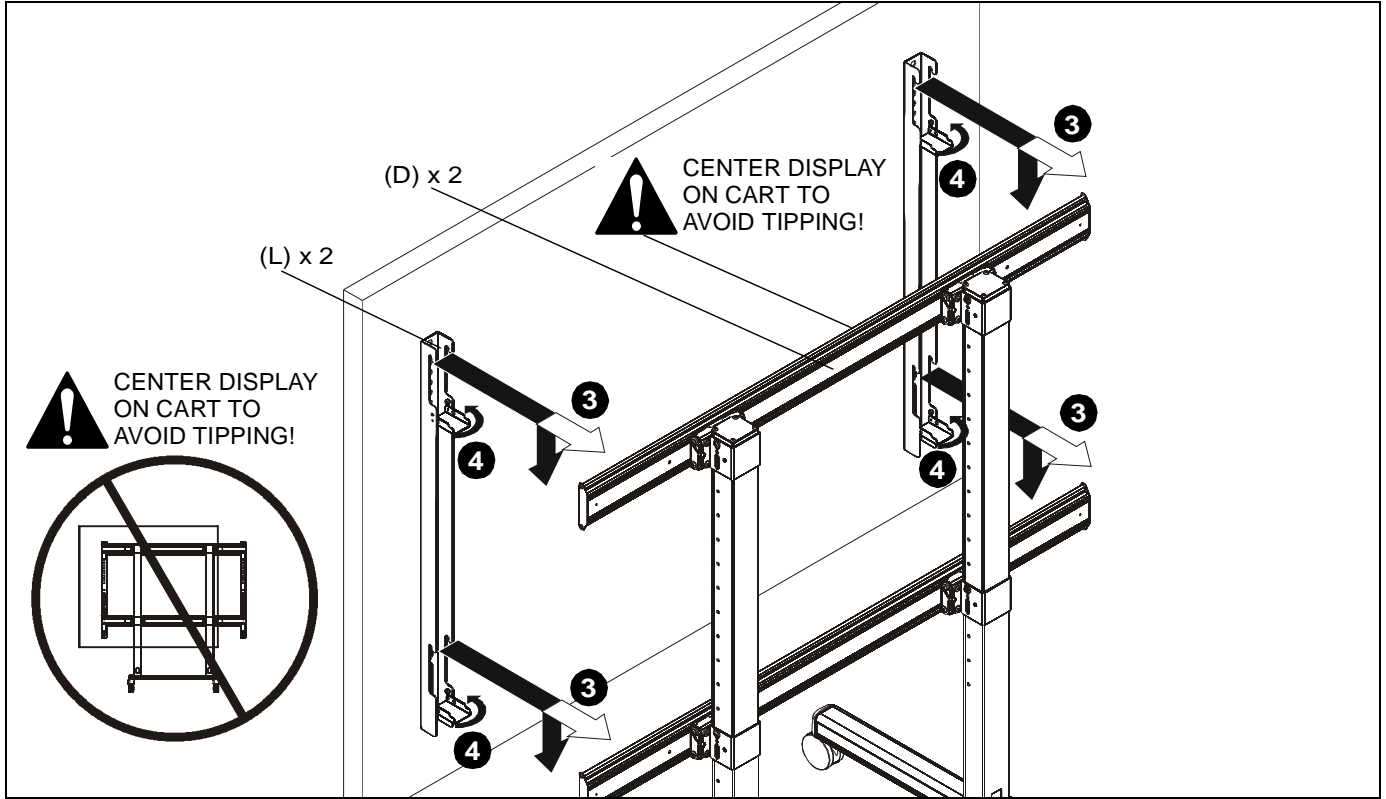

Figure 8
3. Hang interface brackets (L) to center of mounting rails (D). (See Figure 8)
4. Lift locking brackets on interface brackets (L) up to the back of mounting rails (D). (See Figure 8)